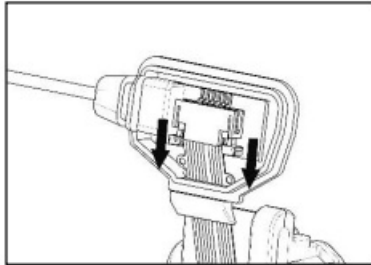

Fig. 4
4. Lift up the two black hooks that hold down the keypad flex to allow its removal (Fig. 4).